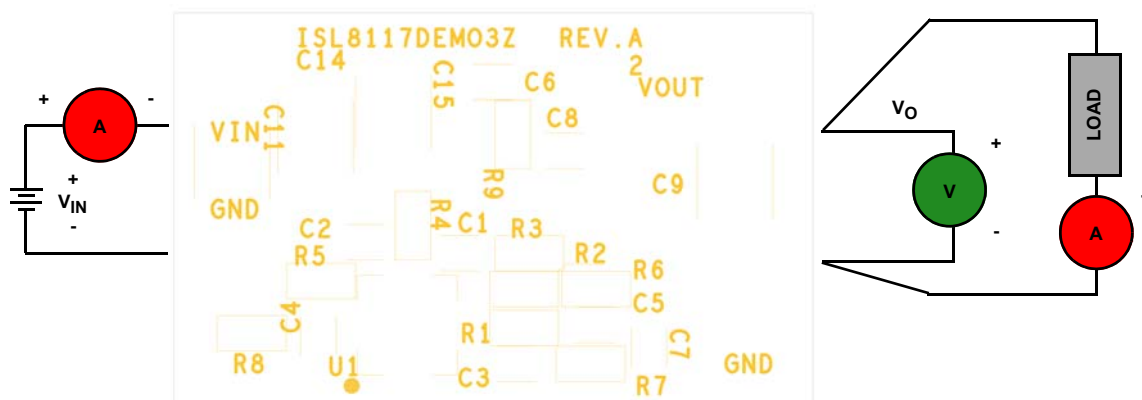

FIGURE 3. PROPER TEST SETUP
1. Ensure that the circuit is correctly connected to the supply and electronic loads prior to applying any power. Please refer to Figure 3, on page 3 for proper setup.
As shown in Figure 3 on page 3, 4.5V to 60V V_{IN} is supplied to J1 (+) and J2 (-). The regulated 3.3V output on J3 (+) and J5 (-) can supply up to 6A to the load.